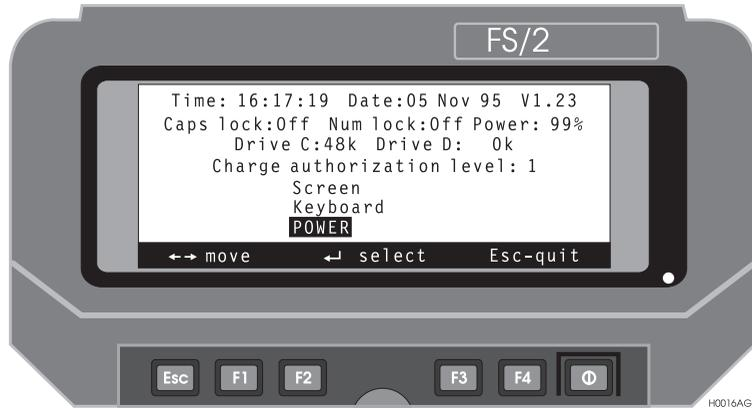

Figure C.2: FS/2 Status Screen
1. At the FS/2 DOS prompt in the Status Screen, press the **PAW** and **H** keys simultaneously, Figure C.2.